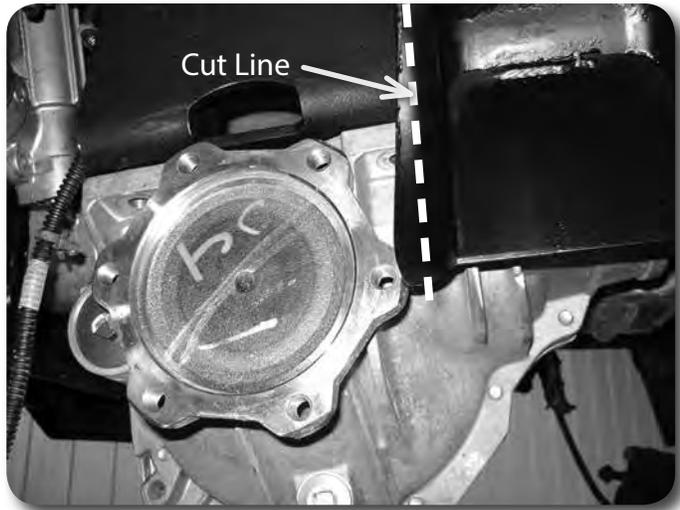

Figure 26 - Shown with differential to show clearance
38. The rear control arm pocket flanges need to be trimmed for CV shaft clearance. Cut the flange so it is approximately 3/8" from the inside face of the control arm pocket. Verify there is enough clearance once to the CV spacers are installed. **Figure 26 & 27**